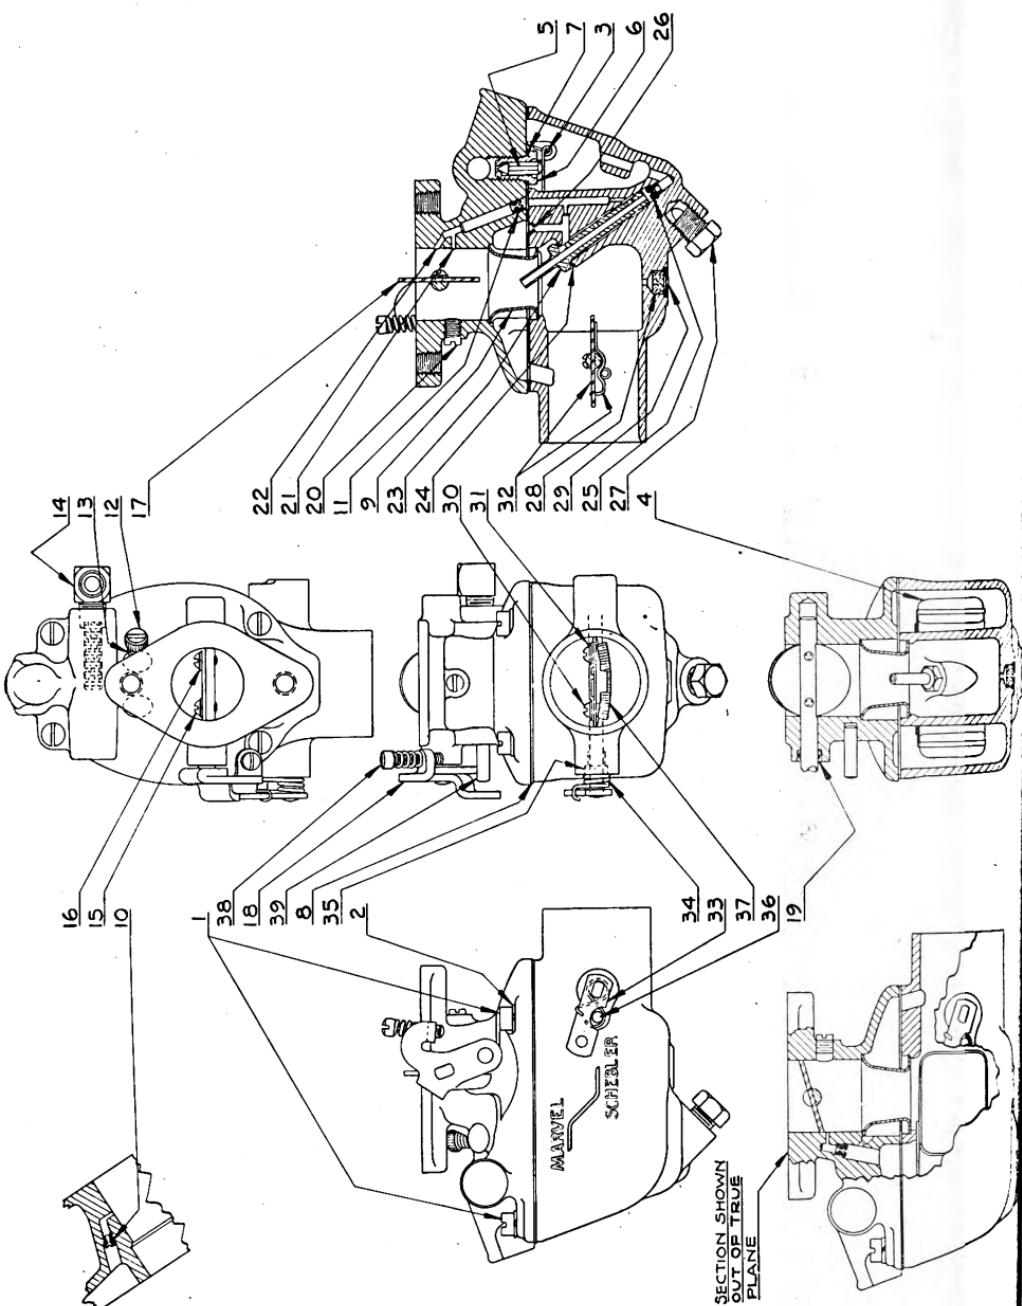

Figure 14. Carburetor assembly.
c. **Replacement of Parts.** (1) Check all bearings for wear. Replace all rough or worn bearings.
(2) Check the thrust sleeve for wear where it contacts the weight noses and for roughness inside the sleeve.
(3) Check the yoke for wear where it contacts the thrust bearing.
(4) Check the weights for wear where the weight noses contact the thrust sleeve.
(5) Check the weight pins for wear.
(6) Use a new oil seal when reassembling.
(7) If there are worn parts in the assembly consisting of the spider shaft, weight spider, diaphragm, diaphragm bearing, and drive gear, it will be necessary to replace the entire assembly. Lubricate all bearings with oil (OE) before reassembling.
49. DISASSEMBLING CARBURETOR (fig. 14).
a. **Disassembly of Throttle Body and Bowl Cover.** (1) Remove float lever shaft [3] and float and lever assembly [4].
e. Assembly of Main Body and Bowl to Throttle Body and Bowl Cover. (1) With throttle body and bowl cover in the inverted position, lower main body and bowl over floats. Be careful that venturi [9] guides the bowl into position. With the two main castings held firmly together, turn carburetor to upright position and install carburetor to throttle body screws [4] and lockwashers [43].
(2) Assemble gas inlet elbow and screen assembly [14] with open end of connection facing upward as shown in figure 14.
(3) Install carburetor on tractor, using new flange gasket, and make final idle adjusting needle adjustment as directed under adjustment instructions.